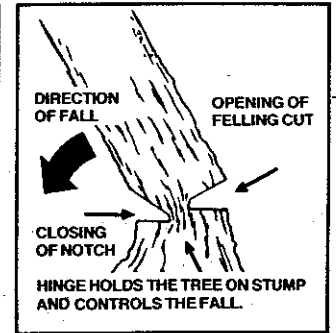

Figure 22
- c. Leave enough uncut wood between the felling cut and the notch to form a hinge. Figure 22.